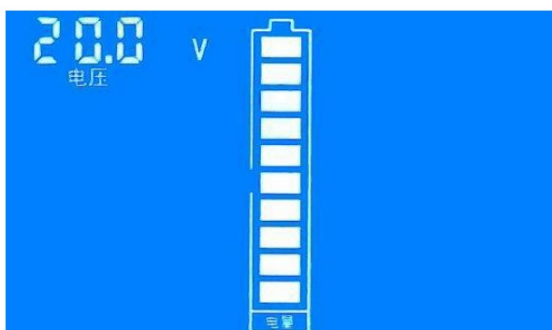
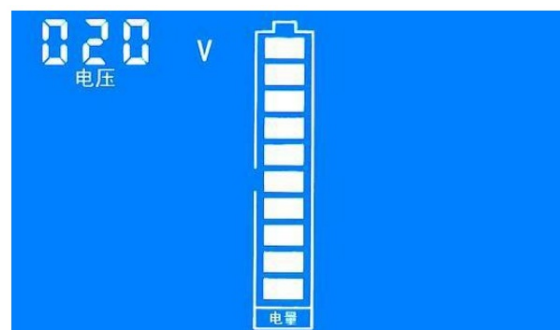

Figure 3: full voltage setting interface (low bit)
Figure 4: full voltage setting interface (high bit)
Step 2: SET character blink present it is the setting status of full/cut-off voltage, long press the button until the LCD screen displays the interface like fig. 3, then release the button.
Step 3: At this time, the battery symbol display full grids energy means the full voltage setting status, factory default the full voltage is 020.0V, the numerical code circulation flashing from the low bit to the high bit show that the current setting digit, short press to set the digit; please pay attention that, as the full voltage setting value has 4 digits, but the numerical code has only 3 digits, So the setting is divided into two parts: low bit (fig. 3) +high bit (fig. 4). For example.e, the default full voltage is 020.0V, then the display state is 20.0V to 020V low and high cyclic switching display. If you need to set the full voltage is 199.0V, then please set the low bit to 99.0V, when the cycle reaches the high bit, it will display 099V, and only the highest zero bit flicker to prompt it can be set. Setting the high bit to 19W represents the full voltage is 199.0V.